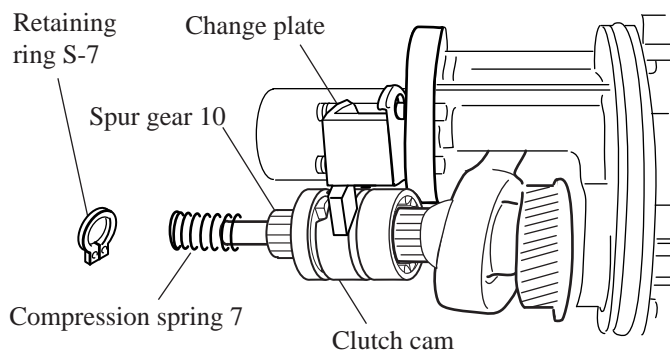

Fig. 12F
8. Assemble compression spring 7 to cam shaft, and fix the parts on cam shaft with retaining ring S-7 as illustrated in Fig. 12F.